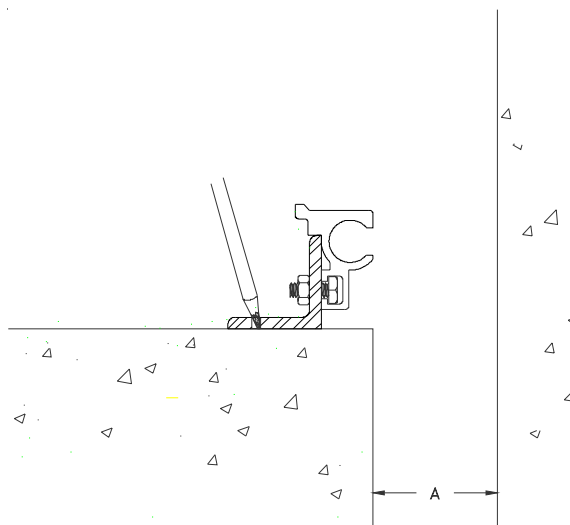

Figure 4
STEP 7. Select a base member assembly, and place it into the blockout in the installed position. Ensure that the base member assembly is level, flush with the finished floor, and plumb with the edge of the joint. Using the base member assembly as a template, mark the locations for the anchors on the concrete (see Figure 4).